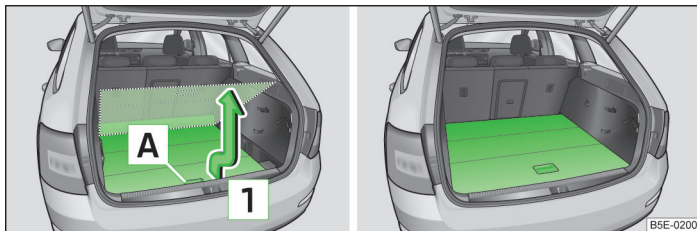

Fig. 95 Setting the variable loading floor to the upper position/variable loading floor in the upper position
- Grasp the rear of the variable loading floor by the handle **A** » Fig. 95.